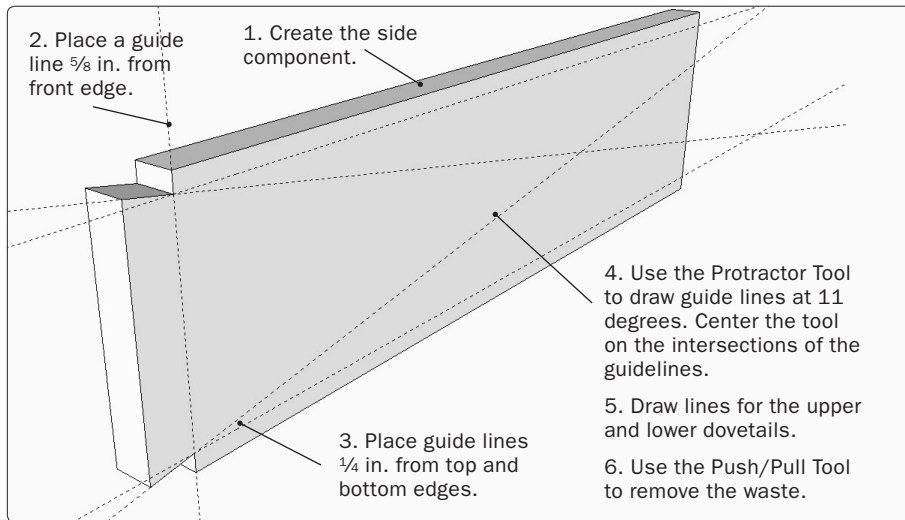

Figure 52. Begin laying out and shaping for the front dovetails.
Step 42 Use the Line and Push/Pull Tools to draw the drawer side, then make it a component. Shape the dovetails on the front end, beginning at the top and bottom corners. As shown in Figure 52, place guide lines $\frac{1}{4}$ in. from the top and bottom edges of the side